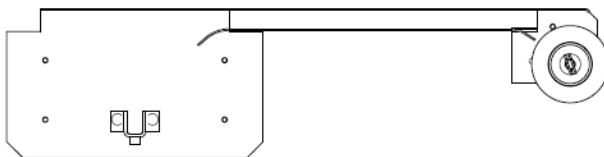

FIG. 1a
**Note:** Rear Roll design requires additional holes as shown in Fig. 1a.